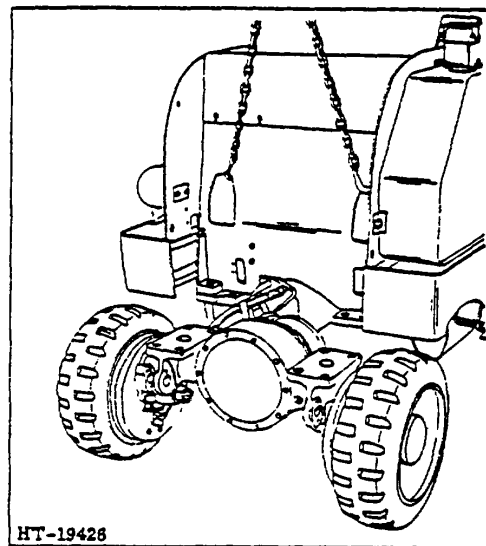

Figure 3. Drive Unit Removal
- d. See Figure 3 and attach hoist chain hooks in the tit cylinder holes in the front plate. Pull chain snug to take the weight of the truck off drive axle.